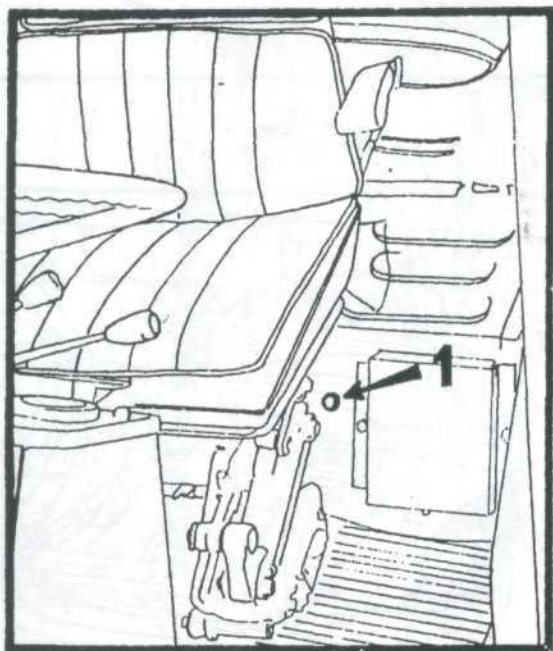

Fig. 8
- Front drive engaging — by pulling out the bowden, the front drive is engaged (Fig. 8/1)